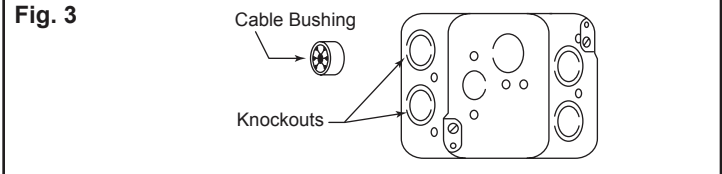

Fig. 4
- Attached supplied plasterguard as per Fig. 4 to ensure sensor mounting holes are positioned correctly.